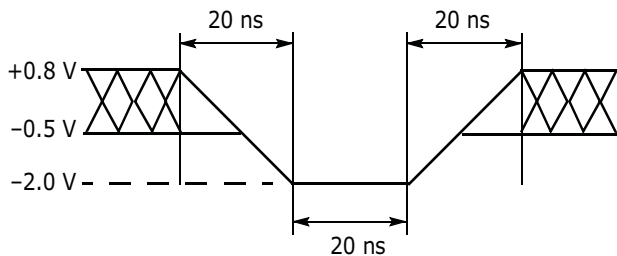
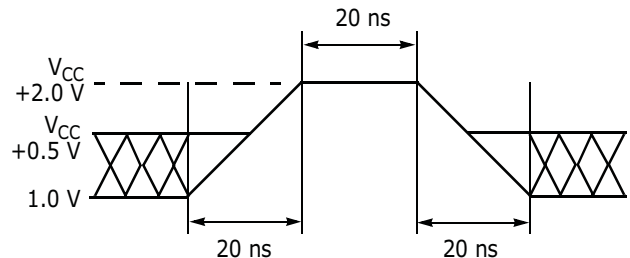

Figure 16.1. Maximum Negative Overshoot Waveform
Figure 16.2. Maximum Positive Overshoot Waveform
1. Minimum DC voltage on input or I/Os is –0.5 V. During voltage transitions, inputs or I/Os may undershoot V_{SS} to –2.0 V for periods of up to 20 ns. See Figure 16.1. Maximum DC voltage on input or I/Os is $V_{CC} + 0.5$ V. During voltage transitions outputs may overshoot to $V_{CC} + 2.0$ V for periods up to 20 ns. See Figure 16.2.
2. Minimum DC input voltage on pin ACC is –0.5V. During voltage transitions, ACC may overshoot V_{SS} to –2.0 V for periods of up to 20 ns. See Figure 16.1. Maximum DC voltage on pin ACC is +9.5 V, which may overshoot to 10.5 V for periods up to 20 ns.